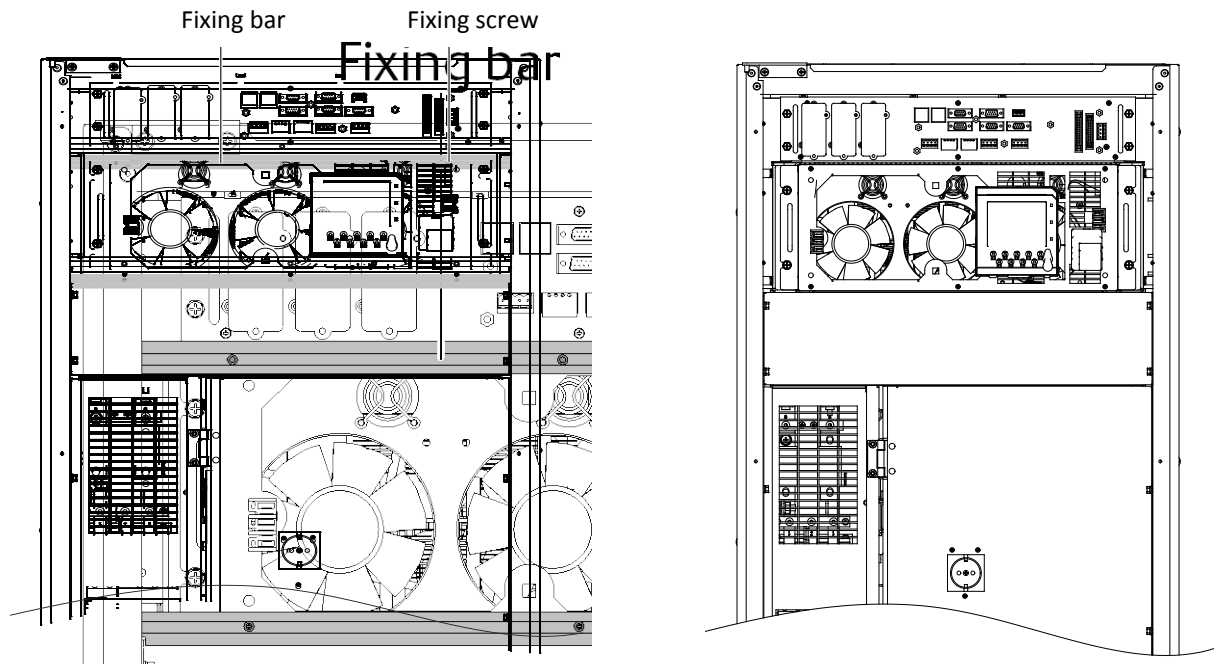

Figure 2-6 Removing fixing bars
4. Open the UPS front door, loosen the six fixing screws and remove the two fixing bars in left drawing in Figure 2-6, and then reinstall the fixing screws to their original positions, see right drawing in Figure 2-6.